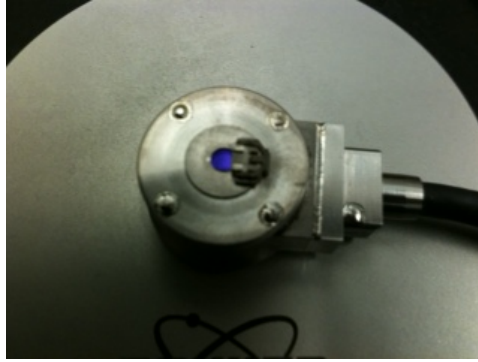

Figure 10. FastScan Z-scanner (probe holder) with clip in locked position.
- 12) Using tweezers, gently lift the probe holder clip and swing it out to the probe loading position (Figure 10).